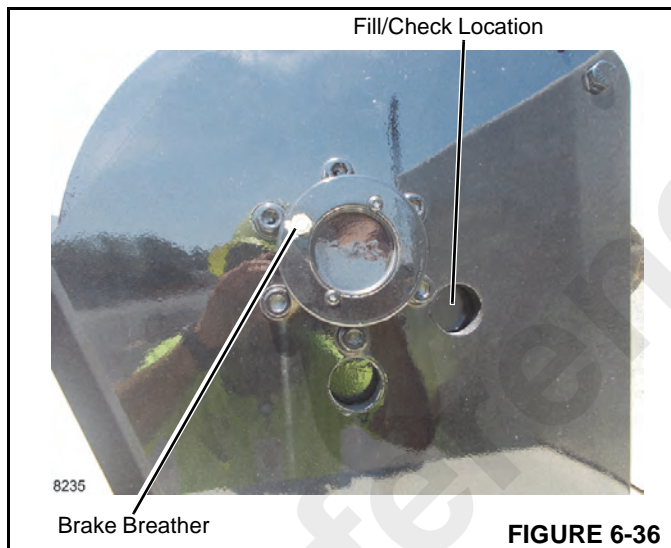

FIGURE 6-36
3. Clean around the gearbox fill/check plug (Figure 6-36) and then remove the plug.
6. Clean around the area of the brake breather and check plug (Figure 6-36). Remove the check plug.